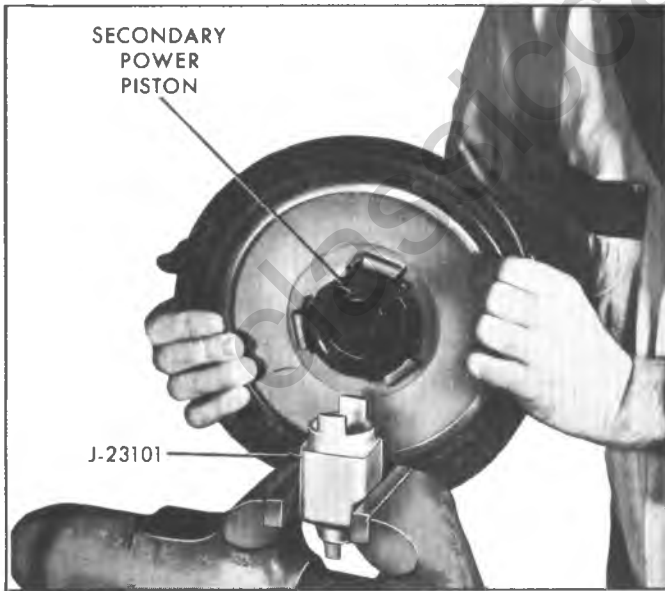

Fig. 4B--Positioning Secondary Power Piston in Tool J-23101 (Large Dia. End Up)
- Mount double-ended Tool J-23101 (with large diameter end up) in a vise. Position the secondary power piston so that the two radial slots in the piston fit over the ears (tang) of the tool (fig. 4B).
20. Mount Tool J-23101 (with large diameter end up) in a vise. Position the secondary power piston so that the radial slots in the piston fit over the ears (tang) of the tool. Apply a light coat of Delco Silicone Lube #5459912 (or equivalent) to the tube of the secondary power piston (fig. 4B).